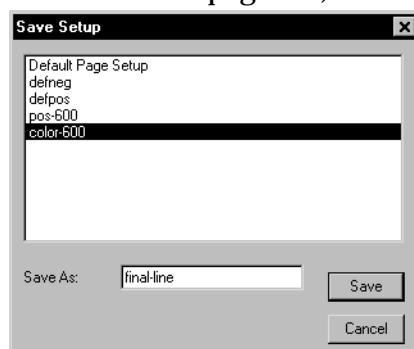

Figure 3.6 Save Setup dialog box
4. The Save Setup dialog box appears, and you can specify a name for your new page setup in the **Save As** text field. (See Figure 3.6.) Click **Save** to save the setup and return to the Page Setup Manager dialog box.